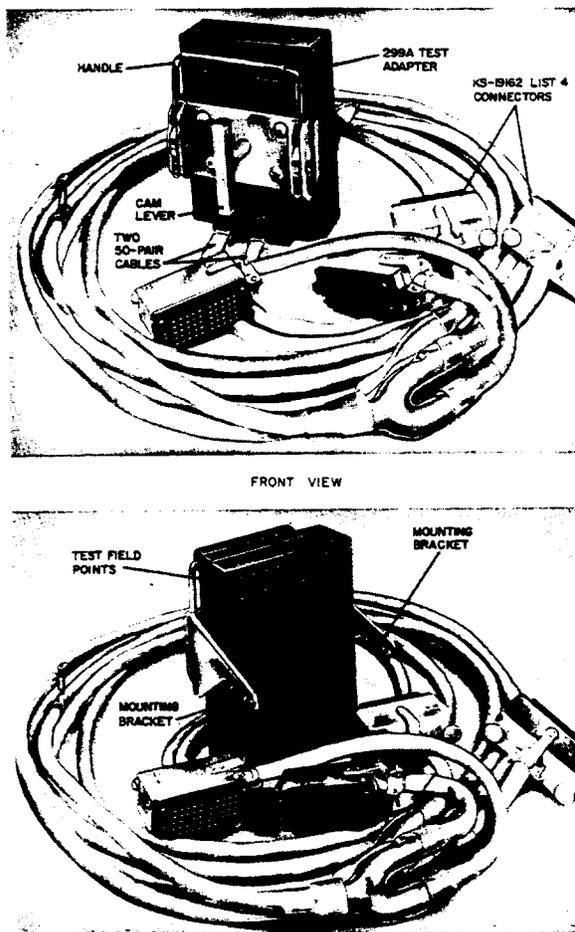

Figure 13. 299A Test Adapter
**8.01** The 299A and 299B test adapters (Figures 13 and 14) are used in testing the 407-type connector. The 299A test adapter provides testing with or without the 4C type units. The 299B provides testing with the 4C units in the service position or in the detent position. See AT&T 201-208-106 for description and use.